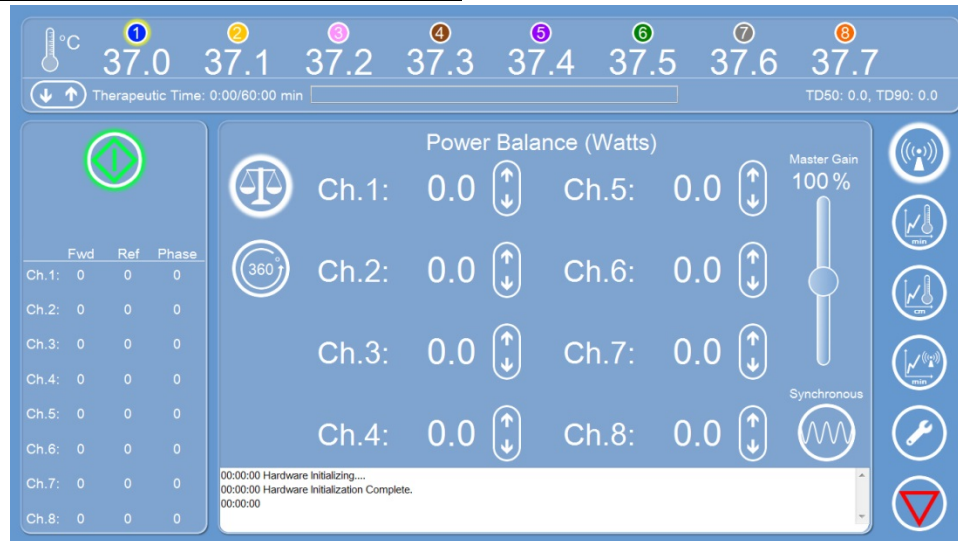

Figure 4-40: Power Balance Control Screen (Multiple Channel Applicator)
- **Power Balance Controls:** discussed below (refer to Figure 4-40)
When the **Synchronous Phase Mode** is enabled on the **RF Controls** screen (Figure 4-40), the **Power Balance** and **Phase Offsets** icon buttons will be visible.
When the **Power Balance** icon button is selected, the **Power Balance** control screen will be displayed (Figure 4-40).